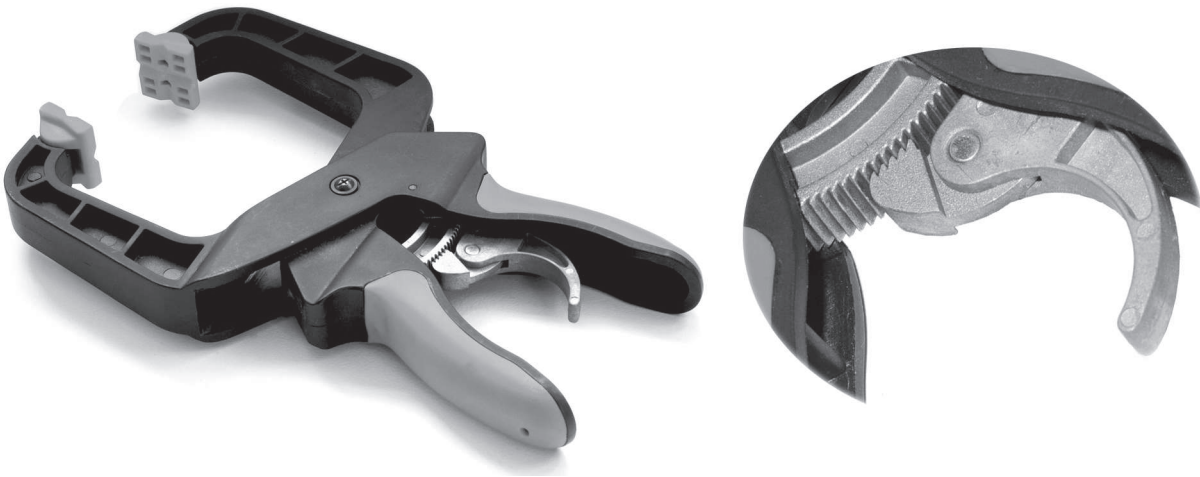

Fig. 16
- (d) Fig. 16 shows two views of a clamping device that uses a ratchet and pawl to hold the jaws closed. A release trigger will allow the clamp to open.